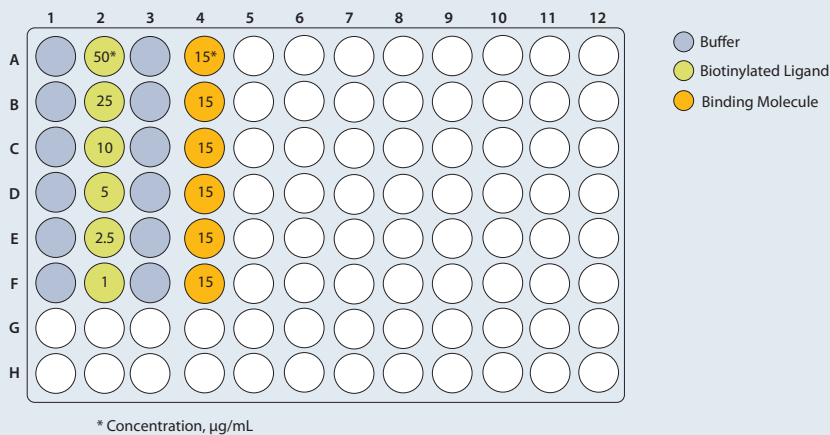

Figure 2: Sample plate layout of a kinetic assay to screen biotinylated ligand concentrations for immobilization onto Streptavidin biosensors
1. Prepare several dilutions of the biotinylated ligand in immobilization buffer (>225 μL per biosensor). For example, Figure 2 shows an assay including six concentrations of biotinylated ligand from 1–50 $\mu\text{g}/\text{mL}$.
2. (Optional) Prepare a solution of the binding molecule in immobilization buffer (>225 μL per biosensor) at a concentration above the expected K_D . For example, Figure 2 specifies a 15 $\mu\text{g}/\text{mL}$ solution of binding molecule.
3. Prepare a sample plate according to the plate map in Figure 2 (200 μL per well).
Figure 3: Example binding chart of a screening assay to optimize immobilization of a biotinylated ligand to Streptavidin biosensors. The assay was run using the plate setup shown in Figure 2 and the assay protocol in Table 1.